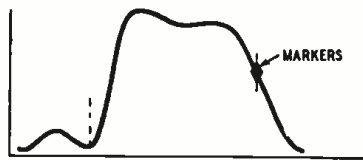

Fig. 2—Trace shows sound traps are adjusted.
2. To adjust the sound traps, signals of the same accuracy as the marker mentioned above are needed at 21.25 mc for the sound i.f., at 27.25 mc for the adjacent picture channel, and at 19.75 mc for the adjacent sound channel. These signals must be amplitude-modulated; usual practice is to modulate the r.f. 30% with a 400-cycle tone. Fig. 2 shows how the i.f. response curve should look after the sound traps have been adjusted.